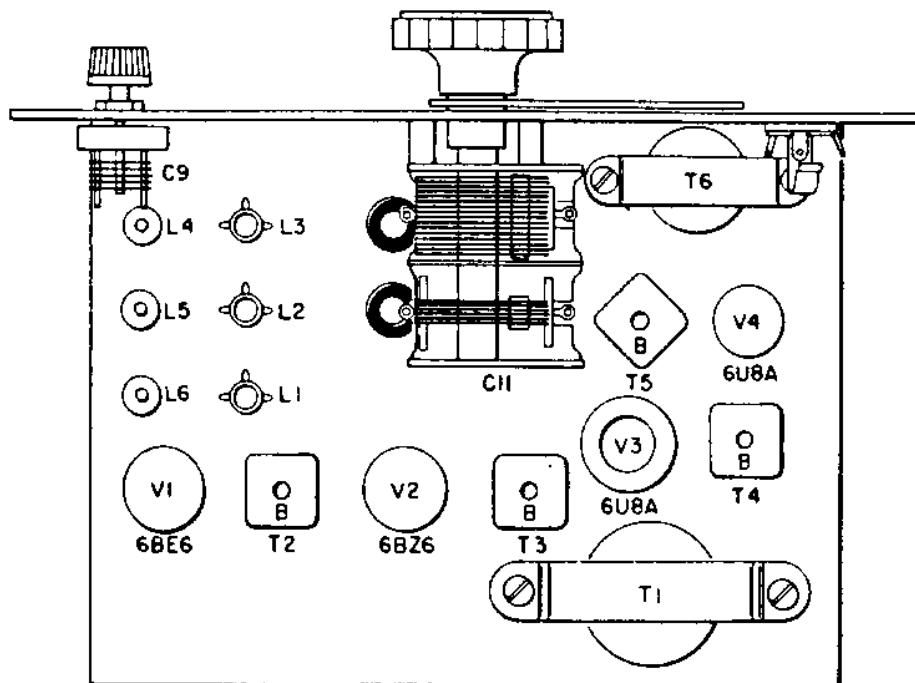
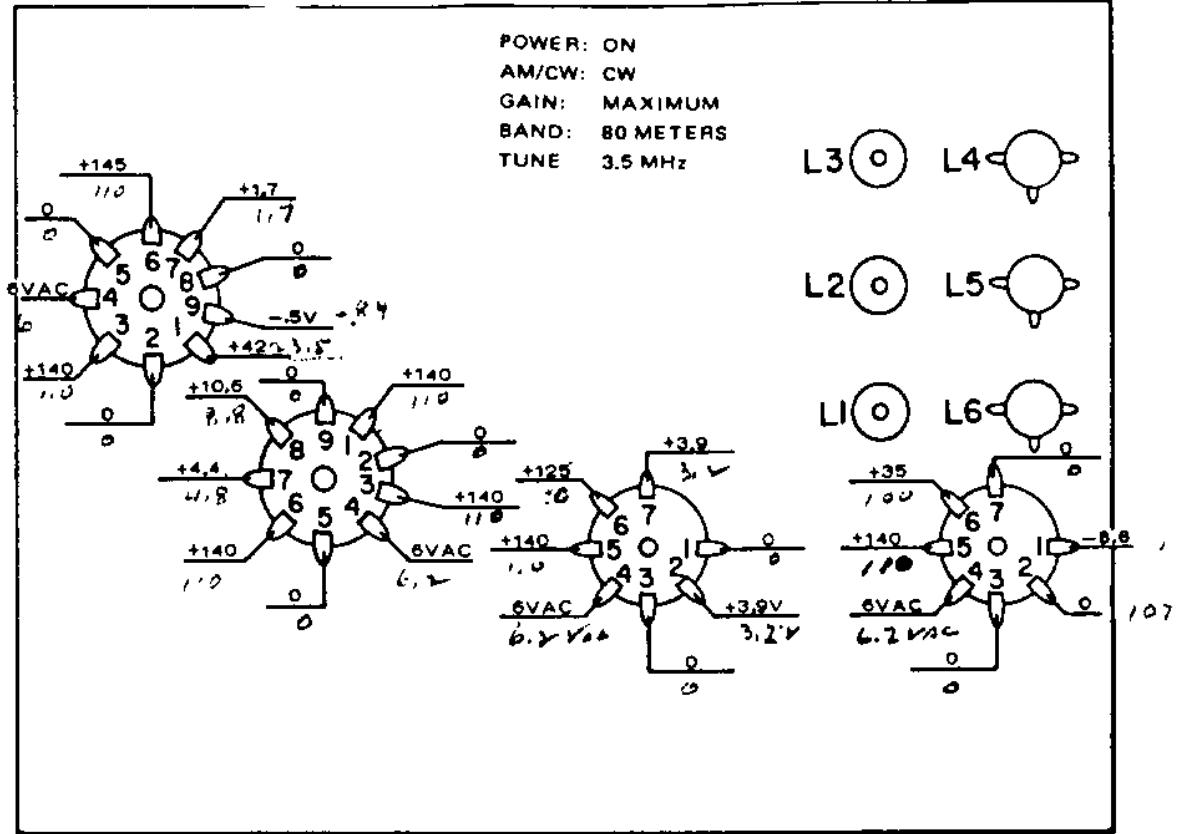
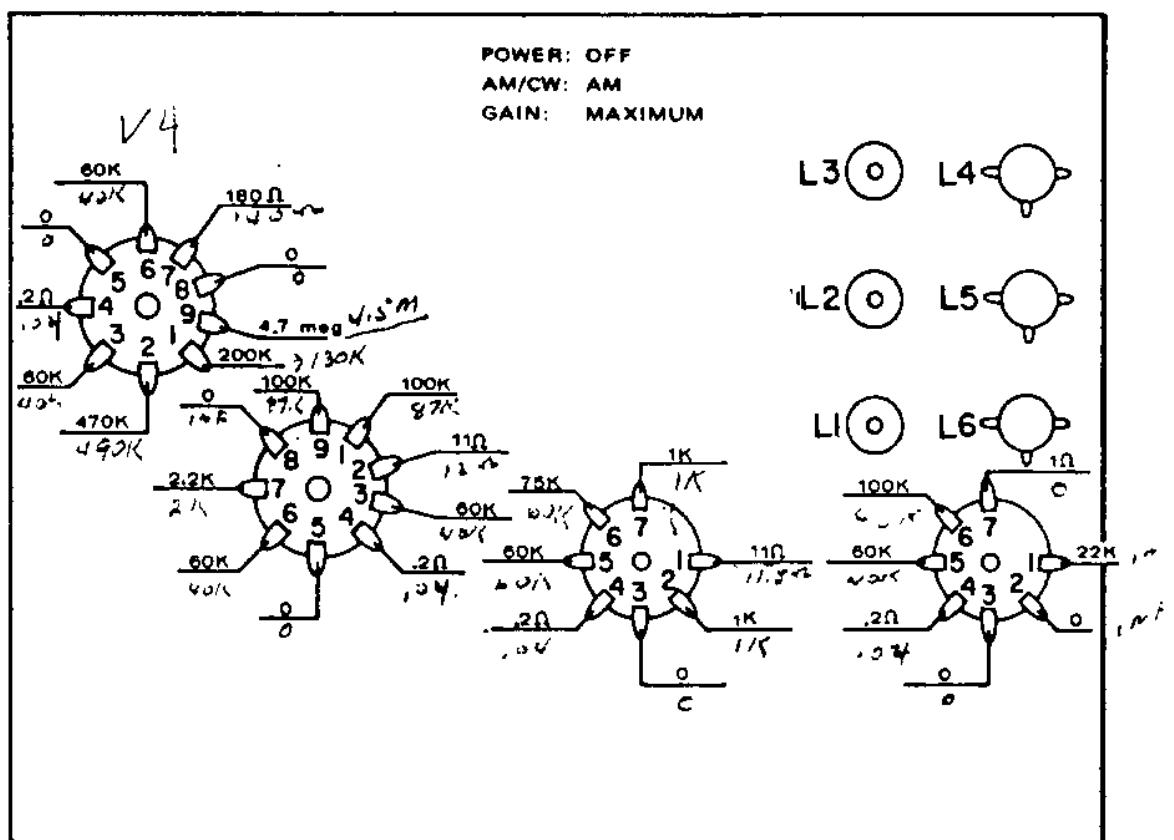
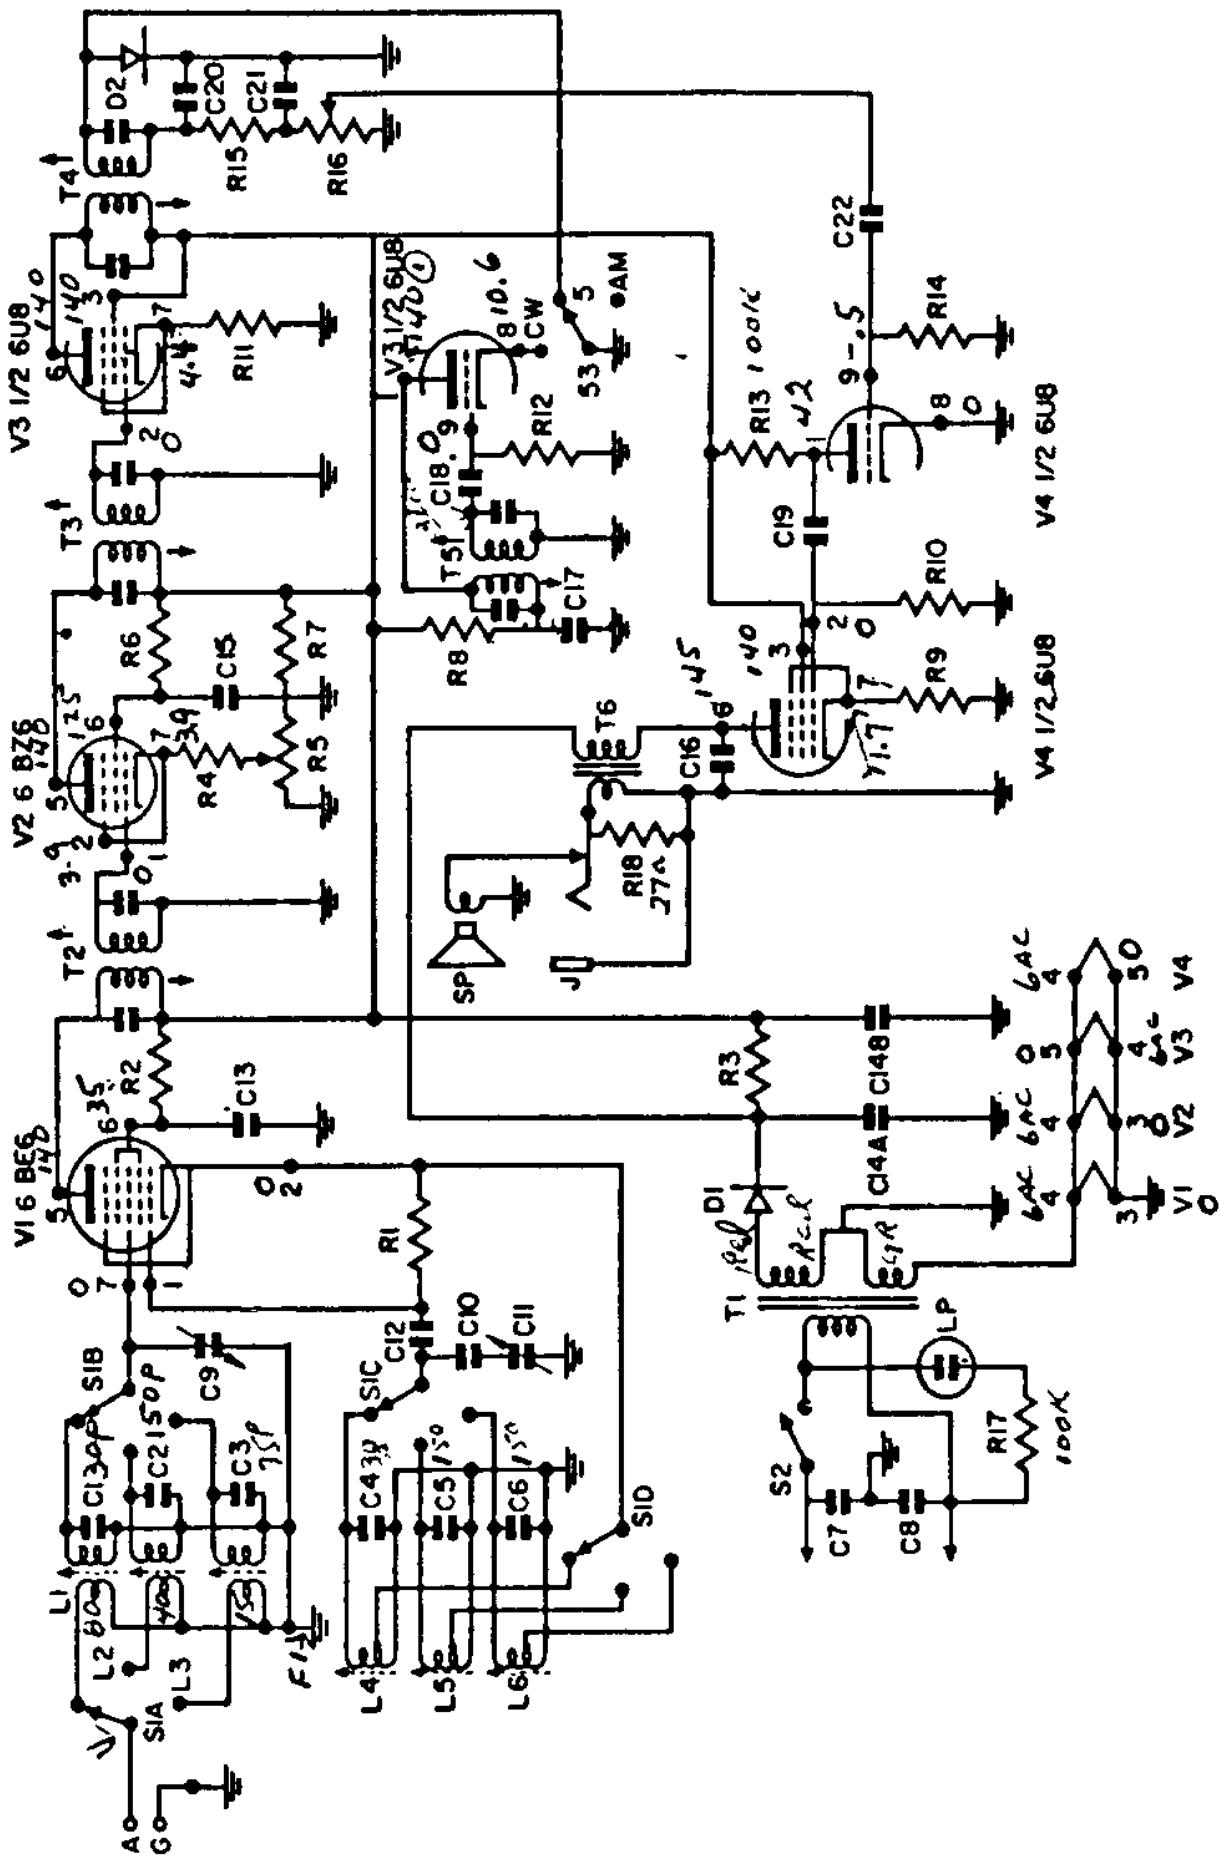

Fig. 5. Components on top of chassis.
Fig. 6. Voltage measurements.
Fig. 7. Resistance measurements.
Fig. 9. Schematic diagram of the Model 500 receiver
Fig. 5 shows the location of various parts on top of the chassis. The part number refers to the numbers on the schematic diagram in Fig. 9 (page 14). If after checking tubes your receiver does not operate properly, check tube voltages and resistances against the measurements shown in Fig. 6 and Fig. 7. Voltage measurements are made to chassis (B- or ground) to the point indicated with the power turned on.
Measurements shown in Fig. 6 were taken with a vtvvm under the conditions shown in Fig. 6.
Resistance readings are shown in Fig. 7. Unplug the receiver before taking resistance readings. When writing CONAR for service consultation, be sure to include the voltage and resistance readings from your receiver to help us locate your trouble.
2. Disconnect the antenna and connect the signal generator to pin 1 of the 6BE6 converter V1 (see Fig. 6 and Fig. 9.) Adjust the signal generator to 455 kHz, modulated with a 400 Hertz audio tone.
3. Carefully adjust the top slug of T4 (see Fig. 5) for maximum audio output. If necessary, reduce the output of the signal generator for a comfortable sound level.
5. Set the tuning control to 3.5 MHz and adjust L4 (Fig. 5) for a maximum vtvM reading. If the dial was below 3.5 MHz in Step 4, turn L4 counterclockwise to align the oscillator. If the dial was above 3.5 MHz in Step 4, turn L4 clockwise to align the oscillator.